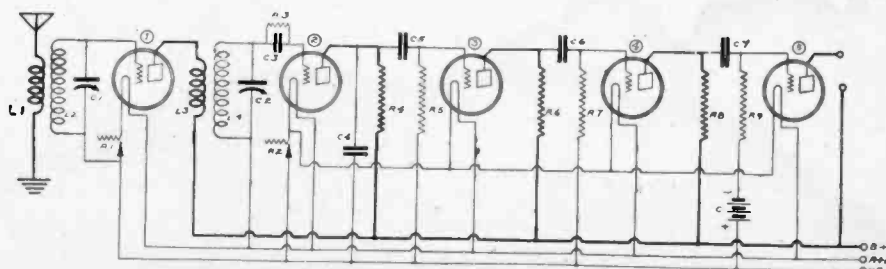
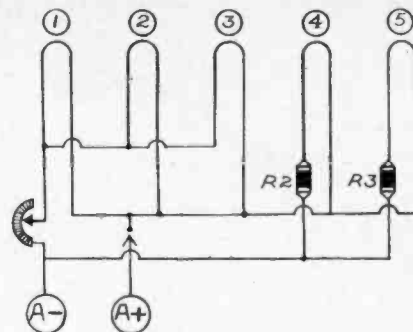

FIG. 522
FIG. 523
You may also try inserting a .0005 mfd. variable condenser, shunted by a forty-five turn coil wound on a three-inch diameter tubing with No. 22 DCC wire, in series with the antenna. (2)—The circuit diagram of the receiver you sent in is shown in Fig. 522, while in Fig. 523, you have diagrammed the changes necessary to make for the installation of the power tube. You will note that the tubes are numbered in accordance with those of the circuit, you sent in. The filaments of tubes, one, two and three are controlled by the ten-ohm rheostat. The filament of the second audio tube is controlled by a one-quarter ampere ballast resistor as per your request. The filament of the last tube is controlled by a one-half ampere ballast resistor. Note the installation of the filament switch, in the plus A lead. It is also suggested that you apply a separate B voltage on the plate of the last tube.